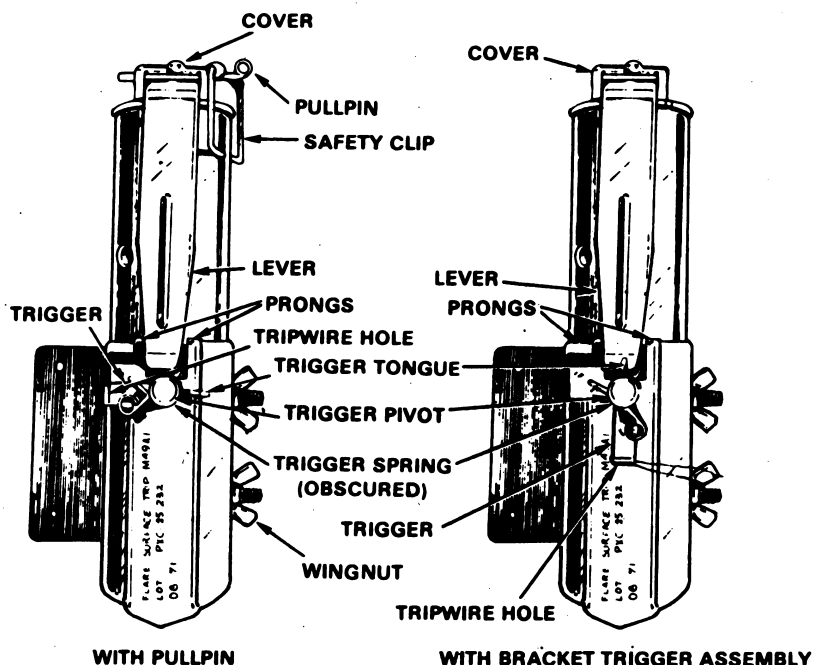

Figure 1
e. Carefully slide flare downward into its bracket until bottom edge of lever is no more than one-sixteenth of an inch above--but not past--the bracket. In this position, note that the flare base is approximately one-half inch below the upper carriage bolt. The bottom end of lever is approximately three-eighths of an inch below the bracket prongs and is centered between these prongs (fig. 1).